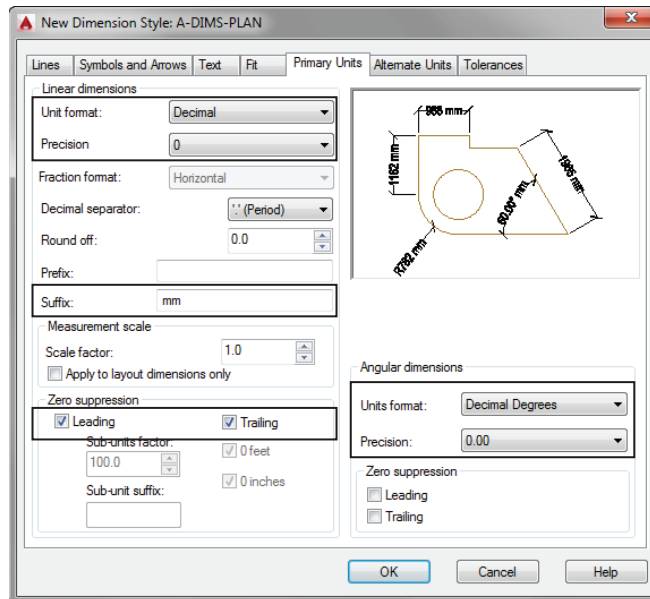

FIGURE 12.10: The Primary Units tab after changes have been made using metric units
1. Click the Primary Units tab, and look at Figure 12.10 to see how it's organized. As you can see in the figure, the Primary Units tab is divided into two main groups: Linear Dimensions on the left and Angular Dimensions on the right. Each of these groups has several types of settings.
After these changes, the Primary Units tab looks like Figure 12.10.